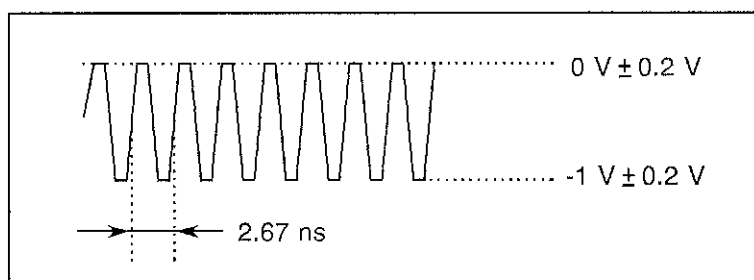

Figure 9-1 Waveform of the 1/32 CLK TRIGGER Output Signal ($f = 12000\text{ MHz}$)
- (5) If the waveform on the oscilloscope is a square wave which is similar to the one shown in Figure 9-1, the 1/32 CLK TRIGGER signal is evaluated as normal.